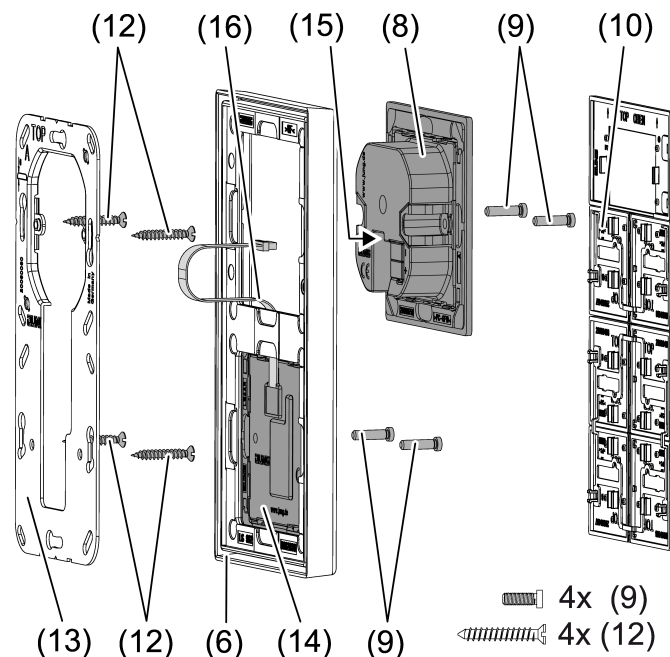

Figure 3: Mounting with push-button sensor extension module
When the push-button sensor extension module is used (see figure 3): preferably mounted vertically. Use large supporting frame (13). When mounting on only one appliance box, countersink the lower screws into the wall, e.g. with a $\varnothing 6 \times 10$ mm hole. Use supporting frame as template.
- Mount supporting frame (5) or (13) in the correct position onto an appliance box. Note marking **TOP** = at top; marking **A** or **B** in front. Use only the enclosed box screws (12).
- Push frame (6) onto supporting frame.
- Mount the push-button sensor extension module (14) preferably below. Route connecting cable (16) between supporting frame and intermediate web.
- Push-button sensor extension module: Insert connecting cable (16) in the correct orientation into slot (15) in the controller module. Do not crimp the connecting cable (see figure 3).
- Connect controller module (8) to the KNX using KNX device connection terminal (11) and push onto the supporting frame.
- Fasten controller module (8) and push-button sensor extension module (12) to supporting frame using the enclosed plastic screws (8). Tighten the plastic screws only lightly.
- Before mounting the control surfaces (10), load the physical address into the device (see chapter 5.2. commissioning).